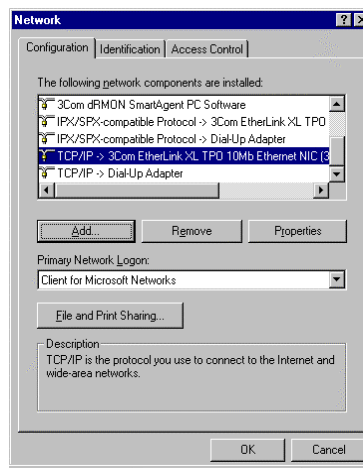

Figure 1.2.2 Example of Network Configuration Dialog on PC
3. Click on the TCP/IP Protocol from the list that is bound to your Eagle (i.e. the TCP/IP item with your Ethernet card shown beside it or, on some systems, simply "TCP/IP" by itself). Figure 1.2.2 shows an example of what the dialog may look like with TCP/IP selected.